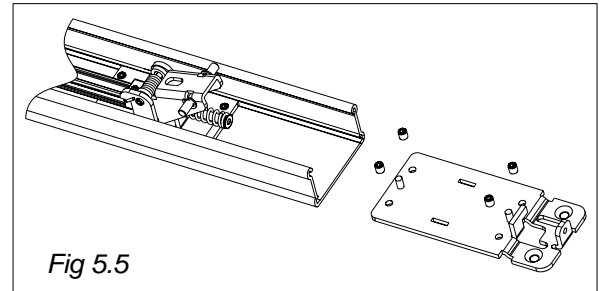

Fig 5.5
- 5) Release the four grub screws and slide out rear fixing plate. (See Fig 5.5)
d) Refit rear fixing plate, again **DO NOT OVER TIGHTEN** the grub screws. (**See Fig 5.5**)